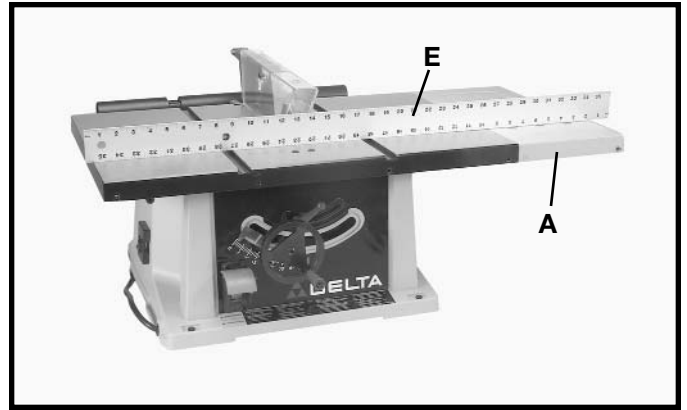

Fig. 19
2. With a straight edge (E) Fig. 19, make certain the top, front and rear edges of the extension wing (A) are level with the saw table before tightening three screws which secure extension wing to saw table.